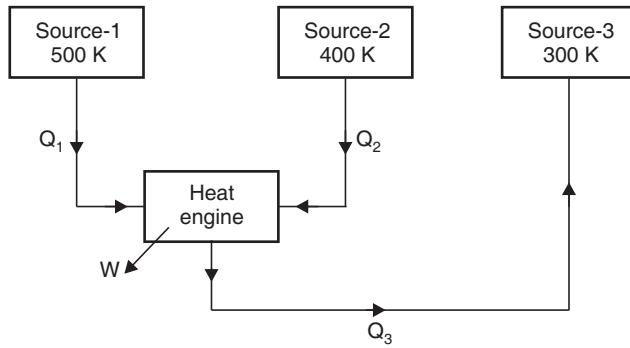

Fig. 3.40
**Example 3.32.** The connections of a reversible engine to three sources at 500 K, 400 K and 300 K are shown in Fig. 3.40. It draws 1500 kJ/min of energy from the source at 800 K and develops 200 kJ/min of work.
**Solution.** Refer to Fig. 3.40.